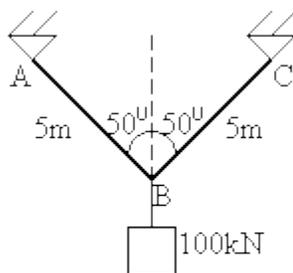

Fig.7
- b. A mass of 5kg, at rest is acted upon by a horizontal impulse of 50 N. Determine the kinetic energy of the mass. (4)
- Q.8** a. An aluminum bar of 50 mm diameter is subjected to a uniaxial load of 100 kN. The elongation is 0.3 mm over a gauge length of 300 mm and the diameter decreases by 0.015 mm. If the material is within elastic limit, calculate the Young's modulus and Poisson's ratio. (6)
- b. A weight of 100 kN is suspended from a roof by two aluminum rods each 5 m long as shown in Fig.7. The ends A, B and C of the rods are hinged and the included angle between the rods is 100° . If the working stress is 56 MPa, determine the diameter of the rods and the vertical deflection at B. Take Young's modulus $E = 210$ GPa. (8)